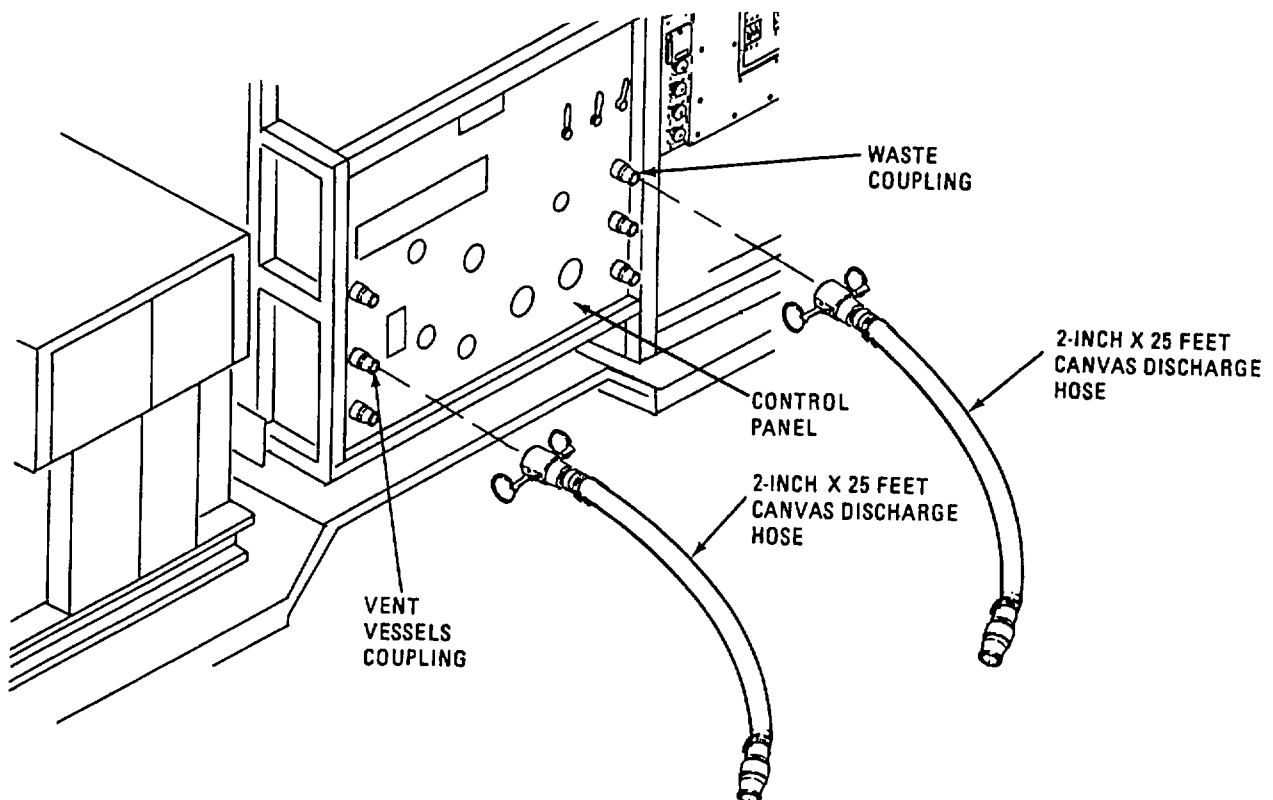

Figure 2-39. Waste Water System Setup.
- r. Setup Waste Water System. Refer to figure 2-39. Connect components of the waste water system as follows: